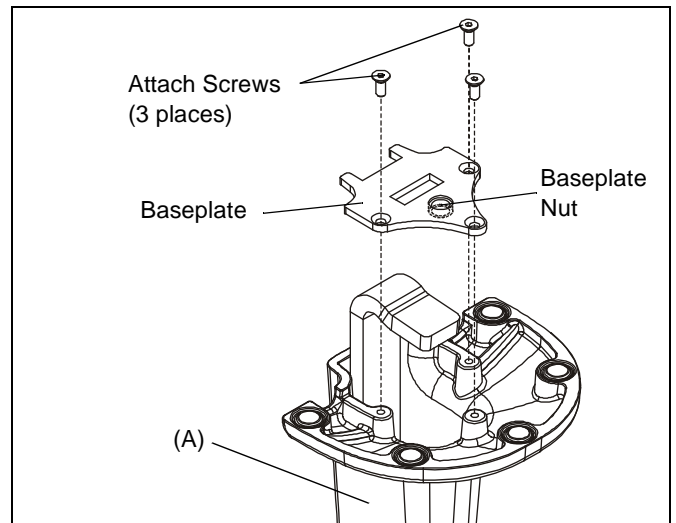

Figure 3
1. Using 2.5mm hex key (J), remove and retain baseplate and three attach screws from bottom of mount (A). (See Figure 3)
- Using 2.5mm hex key, re-install baseplate with three retained attach screws. Ensure baseplate nut faces *interior* of mount (See Figure 3). Tighten securely.